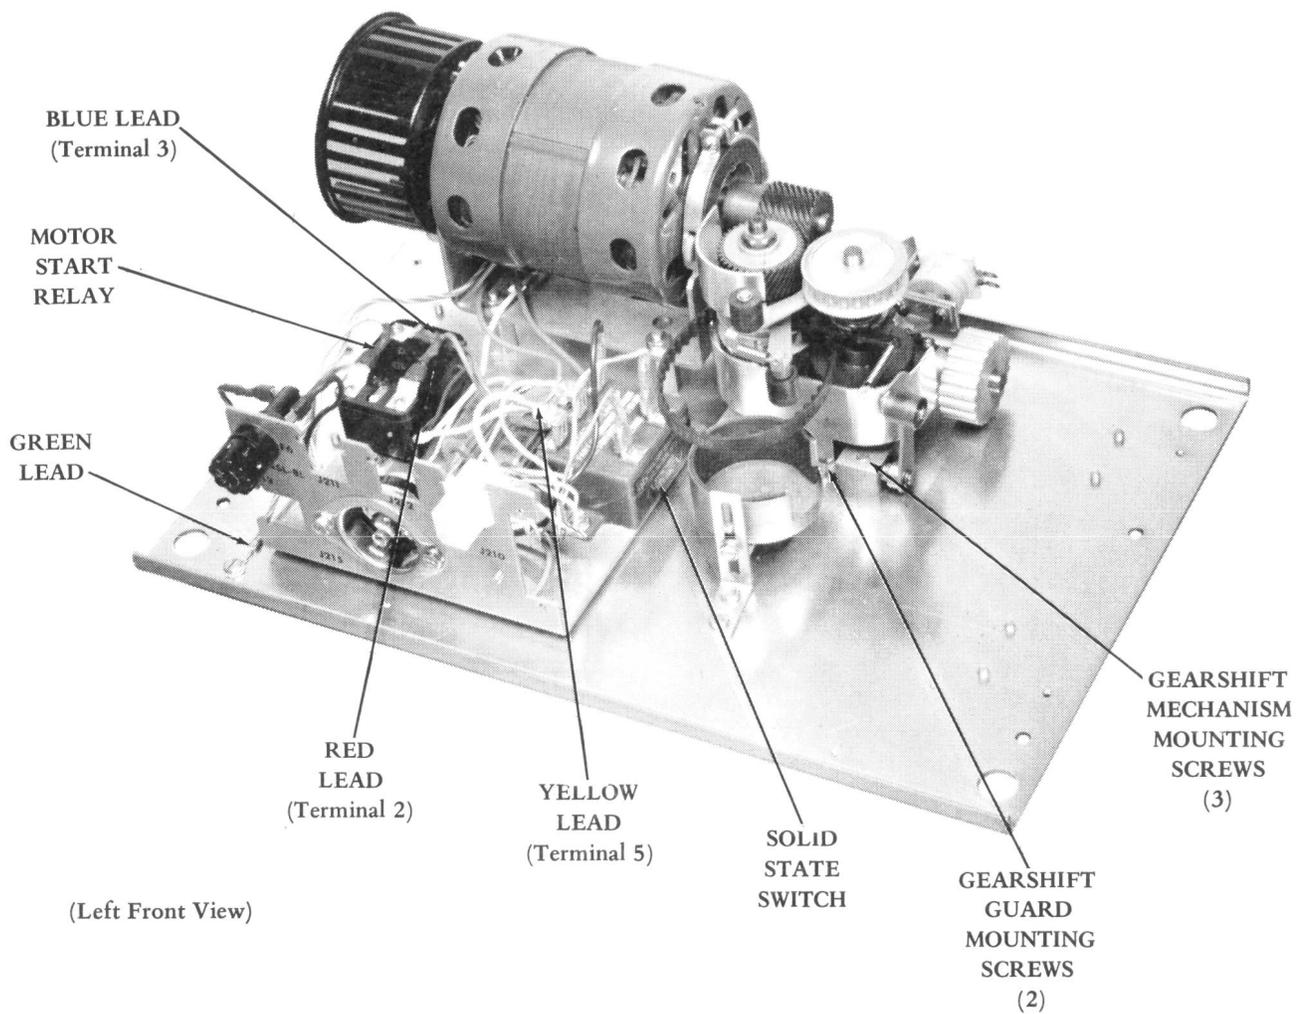

Figure 8 - Baseplate Assembly
- (1) Remove red lead from terminal 2 and blue lead from terminal 3 of motor start relay. Remove yellow lead from terminal 5 of the solid state switch. Remove two head cable connector mounting posts and remove connector. In late design units with lamp brightness rheostat, removal of head cable connector frees rheostat assembly. Remove three connectors labeled J211, J212, and J213 (Figure 8).